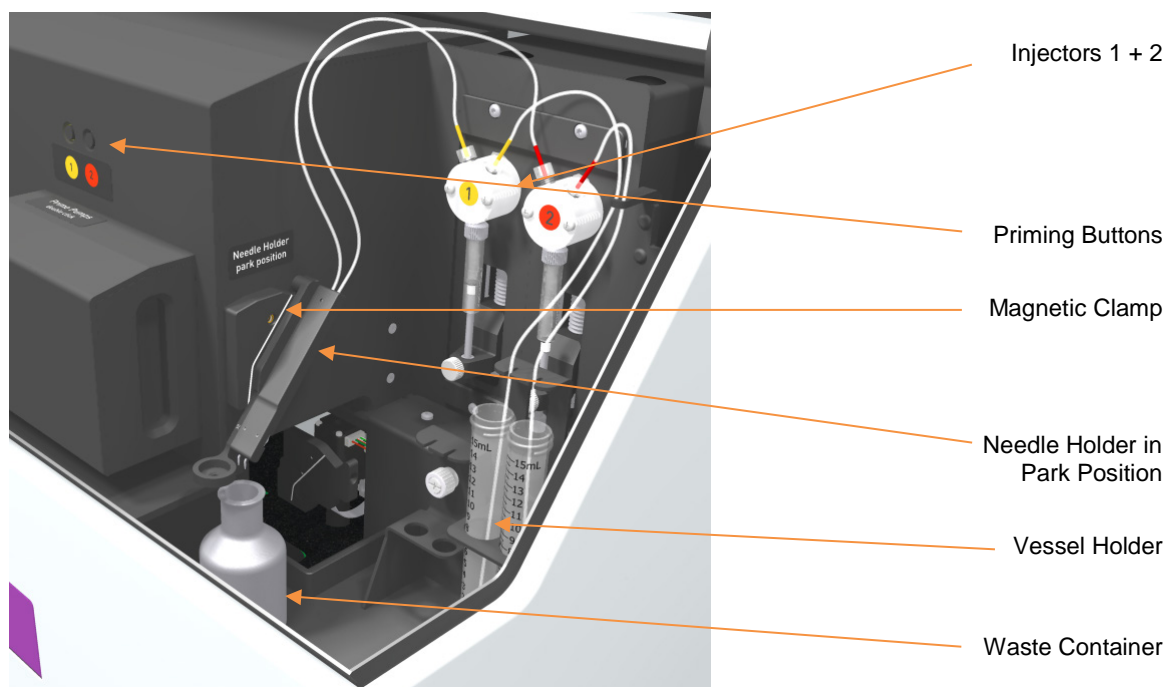

Figure 22: Internal Priming Conditions
The needle holder is removed from its magnetic cradle by gently pulling it away from the instrument. To perform priming, either (1) snap the needle holder into the park position (see Figure 22) or (2) hold the needle holder in hand. In either case, place a collection beaker or vessel underneath the needles for fluid collection.
Priming requires that the needle holder is placed in the park position (Figure 22) or held in hand and a waste container placed below the needle holder for fluid collection.